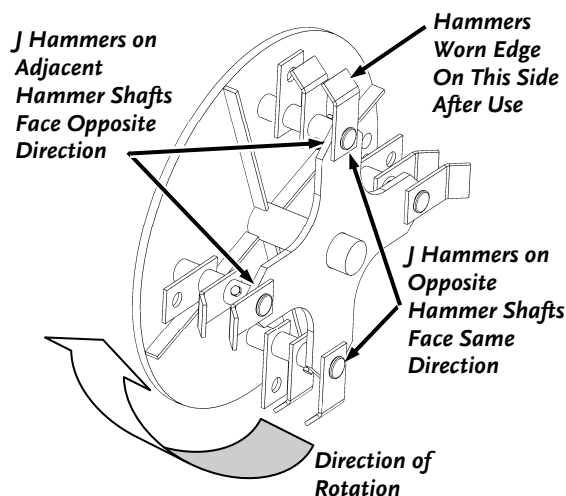

Figure 29
- Note:** There are 2 J Hammers and 1 Flat Hammer on each Hammer Shaft. J Hammers are oriented in the opposite direction of those on adjacent Hammer Shafts (**Figure 29**).
9. Repeat steps 4 through 9 for the other three sets of Hammers. Confirm that Hammer orientations alternate as shown in Figure 29. Correct them if needed.